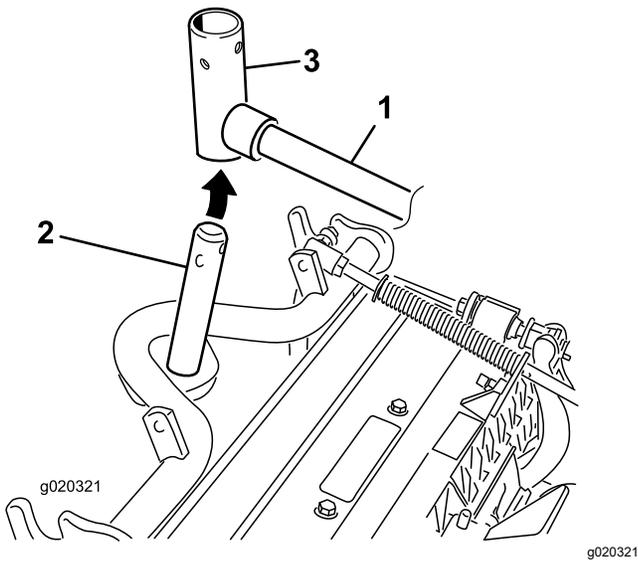

Figure 10
2. Insert the lift-arm yoke onto the carrier frame shaft (Figure 10).